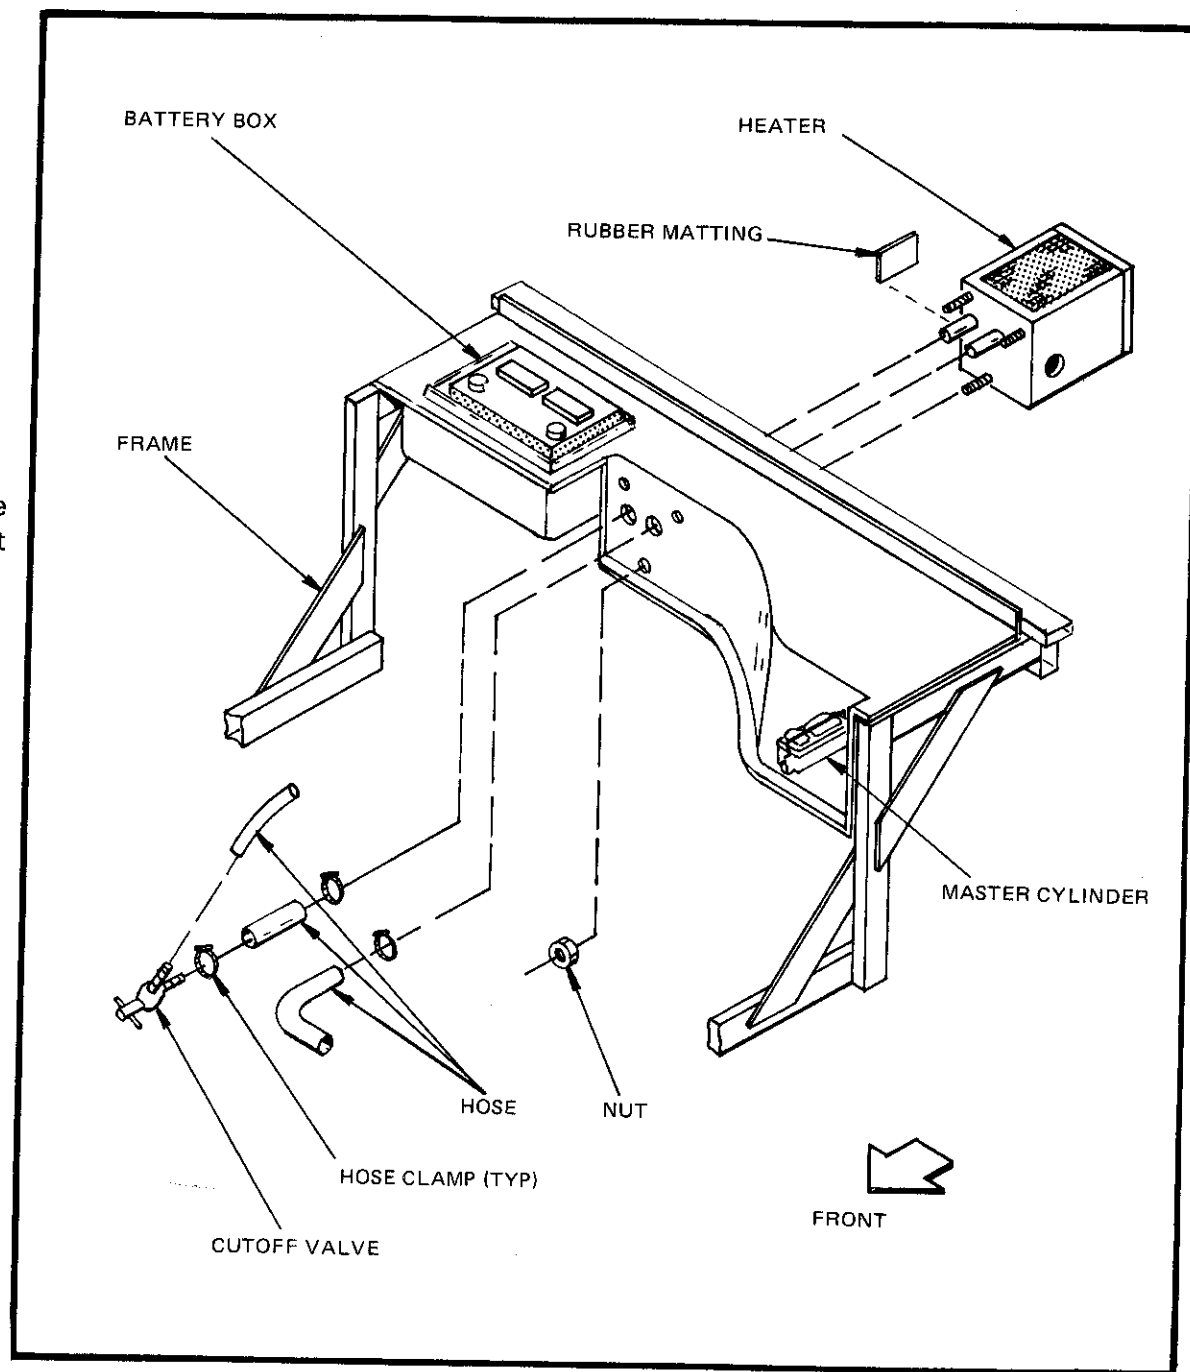

Figure 37
- ☐ Install heater into battery box, securing with hardware supplied with heater. Connect heater hoses to engine, attaching cutoff valve in heater inlet line. (Figure 37)